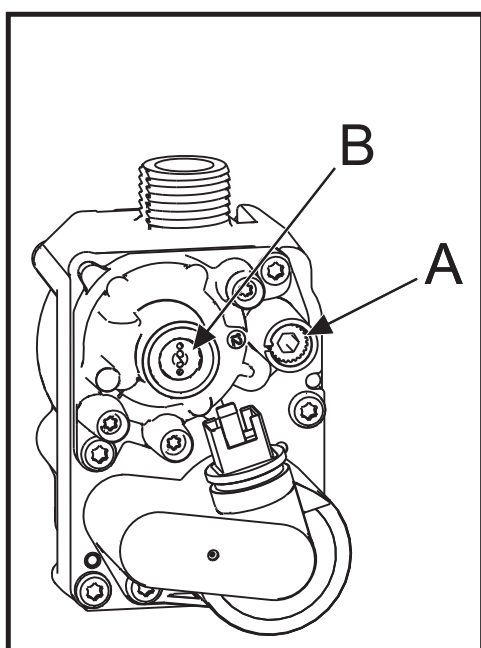

fig. 33 - Gas valve
3. Now adjust the **Throttle setting** (fig. 33 - screw **A**) until the CO₂ is at the correct **SETTING LEVEL** (see table 4), confirm that the CO/CO₂ ratio is within limits (clockwise to increase gas).
2. Now adjust the **offset pressure setting** (fig. 33 - cup **B**) until the CO₂ is at the correct **SETTING LEVEL** (see table 5), confirm that the CO/CO₂ ratio is within limits (clockwise to increase gas).